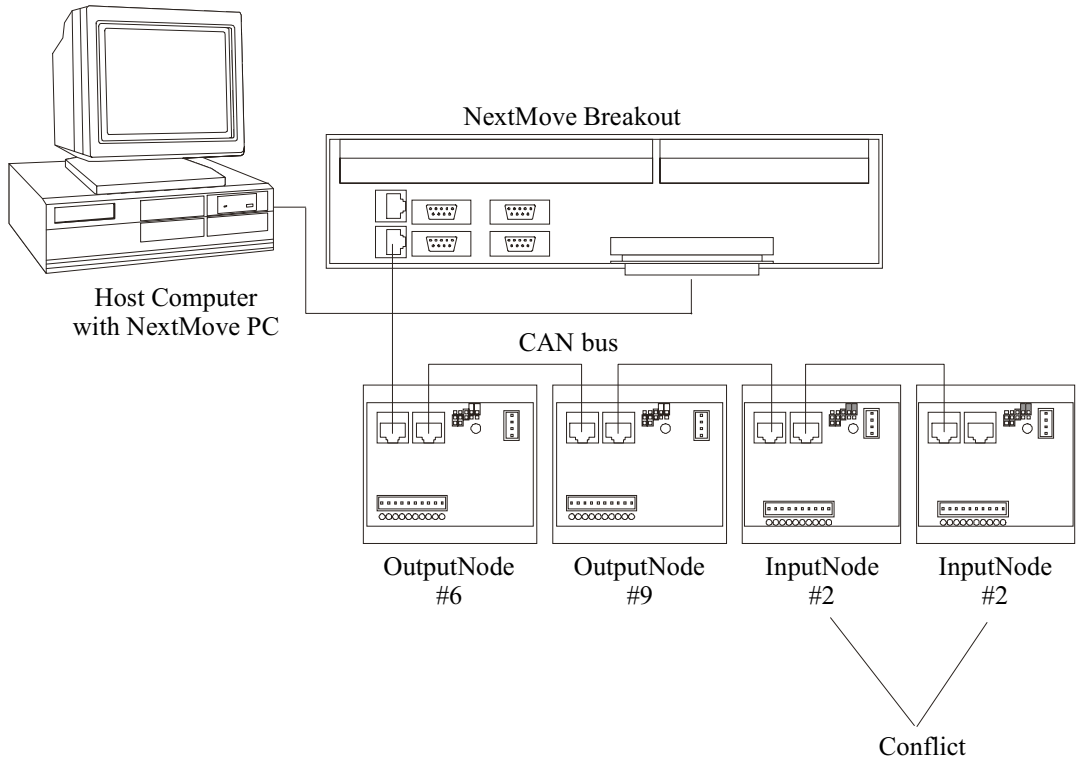

Figure 46: Network with conflicting Node IDs
- No two nodes may have the same Node ID in the same network, as shown in Figure 46.